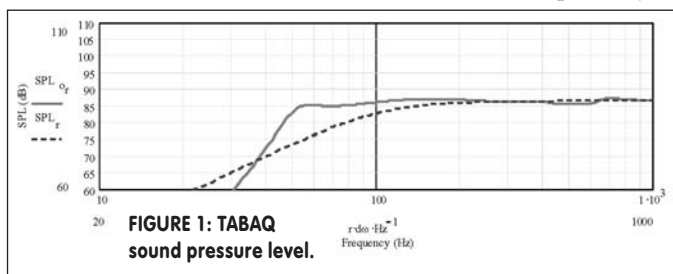

FIGURE 1: TABAQ sound pressure level.
The TABAQ Sound Pressure Level (SPL) is impressive for such a small driver, with a very smooth and broad frequency response. The dashed line in **Fig. 1** is the Infinite Baffle (IB) response, and the solid line is the summed output from the driver and the opening.